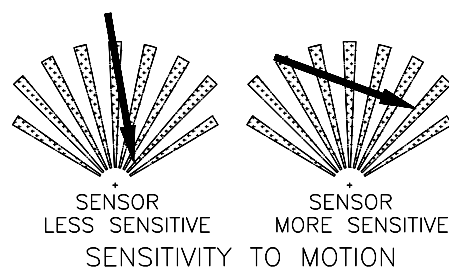

FIGURE 1
3. Where possible, mount the detector so that the logical path of an intruder would cut across the fan pattern rather than directly towards the detector (FIGURE 1).